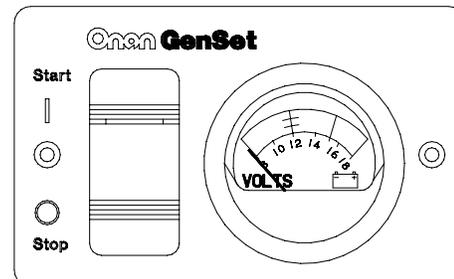

FIGURE 6. REMOTE SWITCH / DC VOLTMETER
- Remote switch with indicator lamp and DC voltmeter (Figure 6).